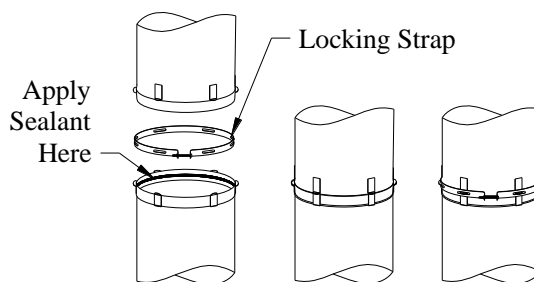

Fig 5B. (Locking Strap Joint)
1. Remove the Locking Strap from the Vent (See Fig.5B)
4. Smooth down the bead with a flat instrument or moistened finger (See Fig. 5B).
7. Insert Bolt Head through the T-slot in strap and tighten strap using a $\frac{3}{8}$ " nut driver or socket. CAUTION: DO NOT over tighten the strap as it may cause the vent to collapse (See Fig 5B).